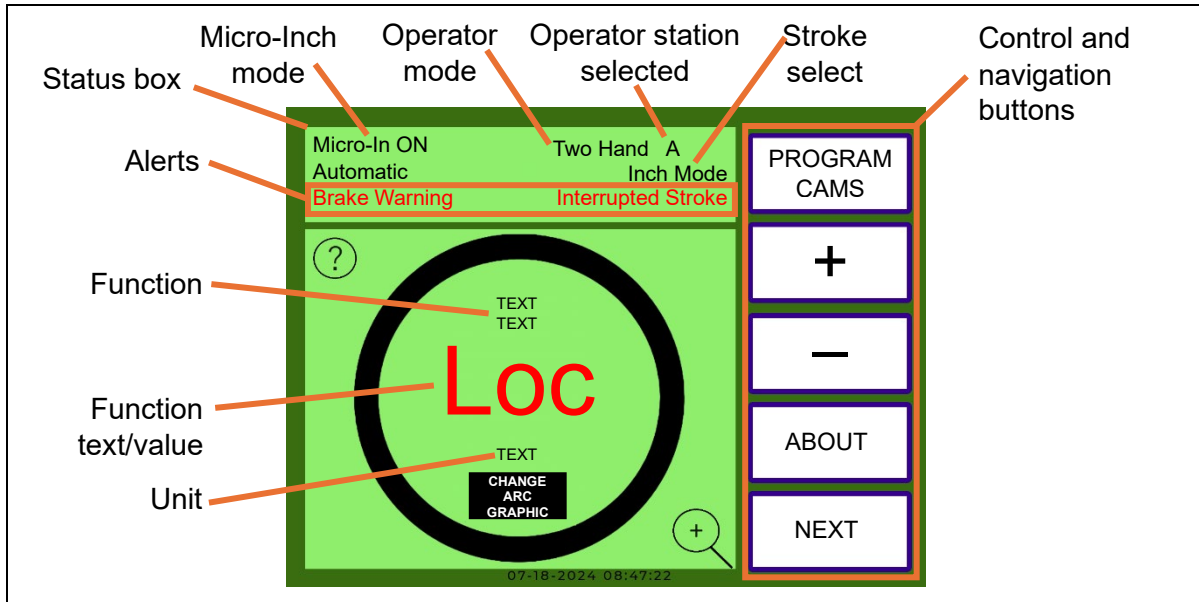
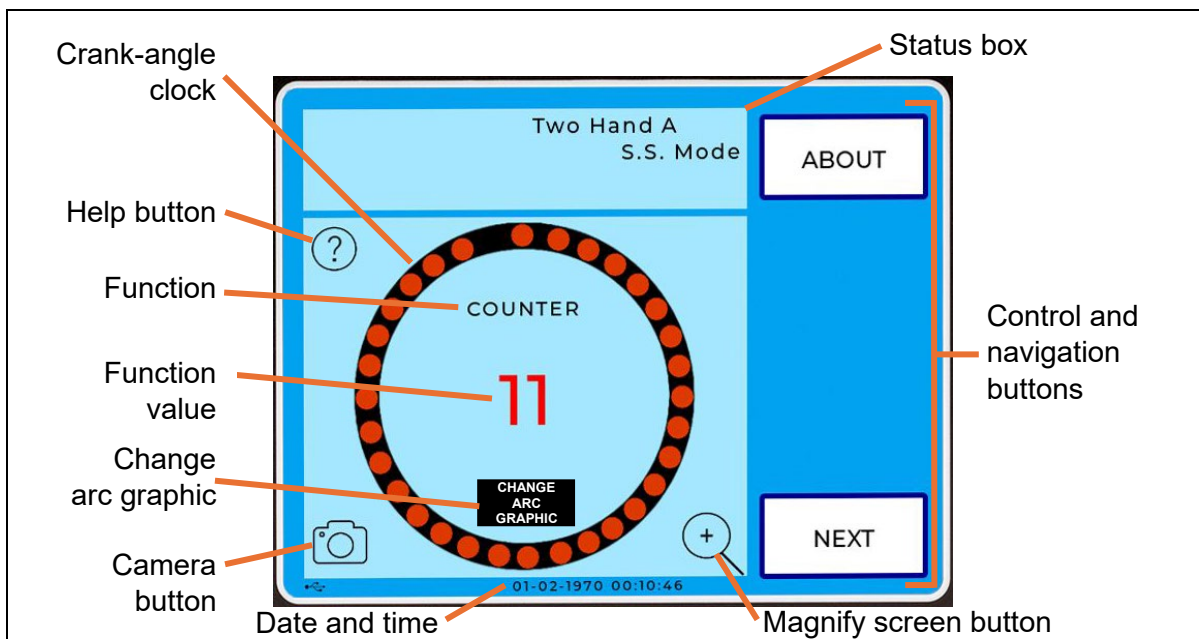

Figure 2. Touch Screen, Program (PROG) Mode
Figure 3. WPC 2000 Touch Screen, Run Mode
Figure 2 and Figure 3 show details of the touch screen display in PROG mode (green) and RUN mode (blue).
- Turn the Settings key switch to the left for Program Mode (PROG). The display (Figure 2) shows the information needed for setup/programming of various parameters.
- Turn the Settings key switch to the right for Run Mode. The display (Figure 3) shows the information needed for setup/programming of various parameters.